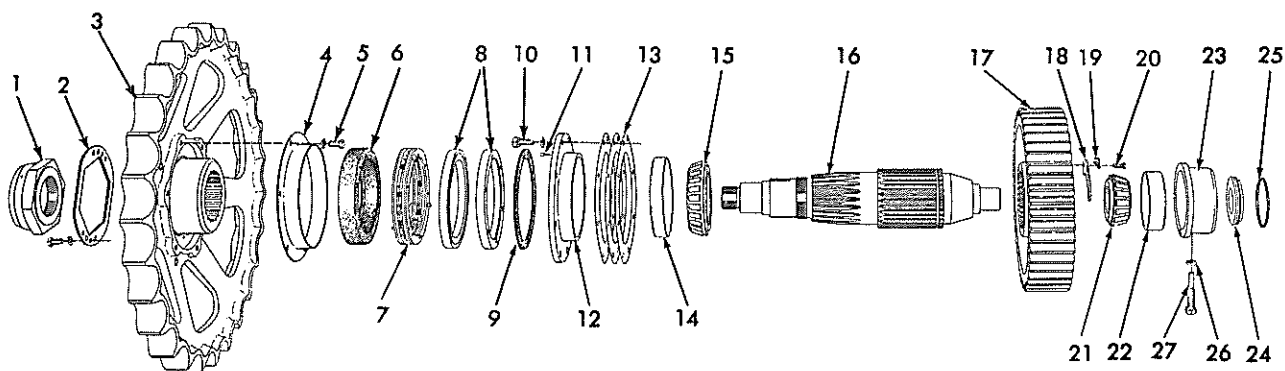
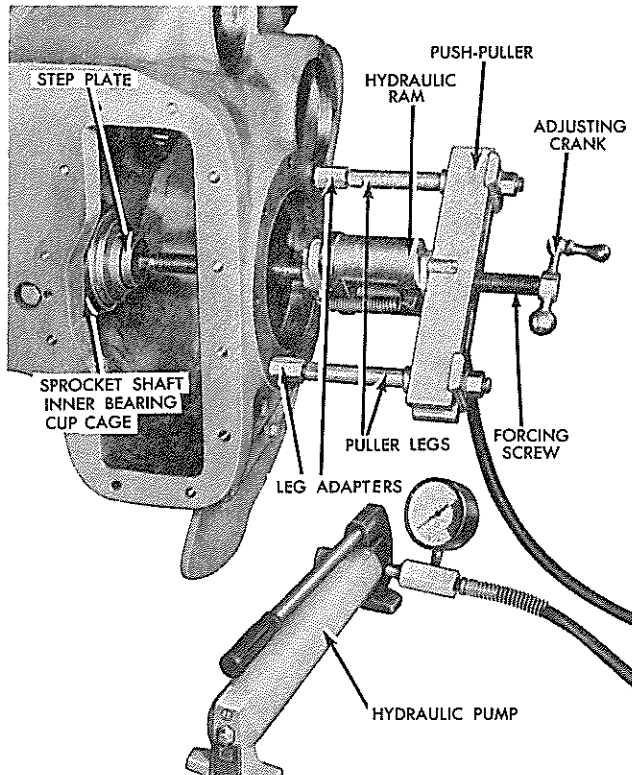
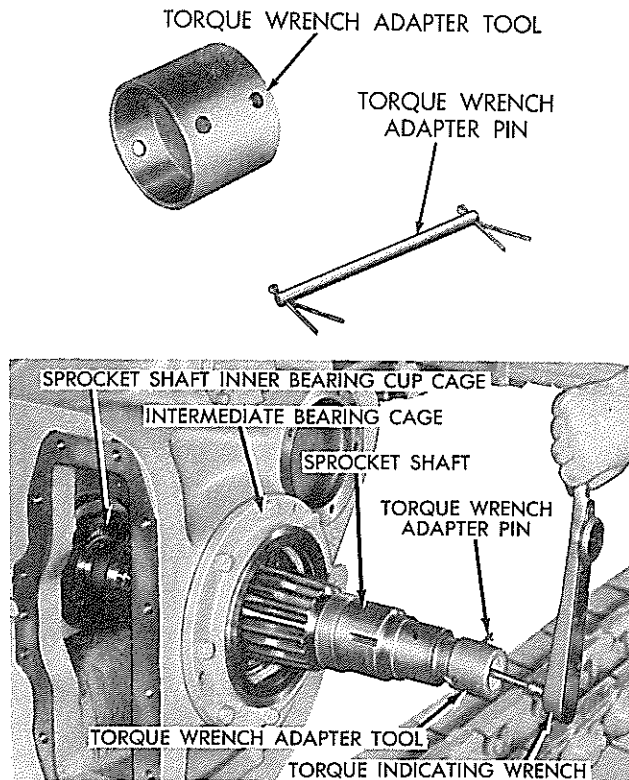

Fig. 15 -- Sprocket Shaft and Driving Gear Details
Fig. 16 -- Installing Sprocket Shaft
Fig. 17 -- Checking Pre-load of Sprocket Shaft
1. Install new O-ring, Fig. 15 (25) on inner bearing cover (24). Start cover in its bore; install bearing cup (22) in inner bearing cage (23). Use tools similar to those shown in Fig. 16 to install inner bearing cage and inner bearing cover. When installing inner bearing cage, align slot in cage with bearing setscrew, Fig. 15 (27); tighten setscrew after bearing cage is seated in its bore.
2. Lubricate sprocket shaft bearings; install sprocket shaft without driving gear) in housing. Install bearing cup Fig. 15(14) in intermediate bearing cage (12); use guide studs, install bearing cage (with original bearing adjustment shims) in its bore. Remove guide studs; install and torque attaching capscrews to 90 -- 100 lbs. ft. (110 -- 120 lbs.ft. if Grade 8 capscrews are used)
3. Sprocket shaft bearings (inner and intermediate) are properly adjusted when they have 50 -- 100 lbs. in. pre-load or when they are adjusted .002" to .003" tight. A torque wrench and adapter may be used to check bearing preload as shown in Fig. 17. Add or remove shims, Fig. 15 (13), to obtain specified pre-load. When adjusting, bump intermediate bearing cage to be certain bearings are properly seated.
- b. Cement sealing surface of intermediate bearing cage Fig. 15 (12) and one side of seal ring gasket (9); install gasket on bearing cage. Cement flat side of a seal ring (8) and outer face of seal ring gasket (9); install seal ring on gasket, in position on pins (11).
- d. Install boot, Fig. 15 (6) on follower assembly (7). Hold each lip of seal boot outward; cement inside of lips and sides of follower assembly. Press boot lips back in place against follower assembly.
- f. Cement flat side of other seal ring, Fig. 15 (8) and lip of seal boot (6); immediately place seal ring against seal boot and follower assembly. Protect seal ring with a clean cloth; place weight on seal ring and allow cement to dry and set thoroughly.
1. Install seal guard Fig. 15 (4) in position on track sprocket. Lubricate mating surfaces of seal rings of inner seal assembly; install track sprocket (with seal rings in place) on sprocket shaft.